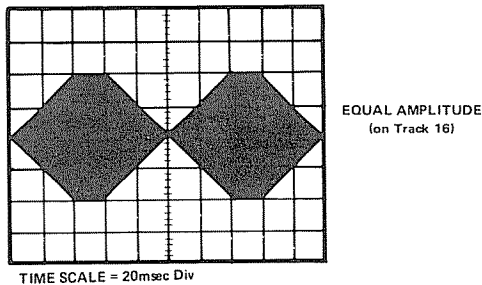

FIGURE 12. "CAT EYES" PATTERN
3. Read track 16 and verify the "cat eyes" pattern as shown in Figure 12. The smaller of the two "eyes" should not be less than 75% amplitude of the other. % = (small lobe/larger lobe) x 100.